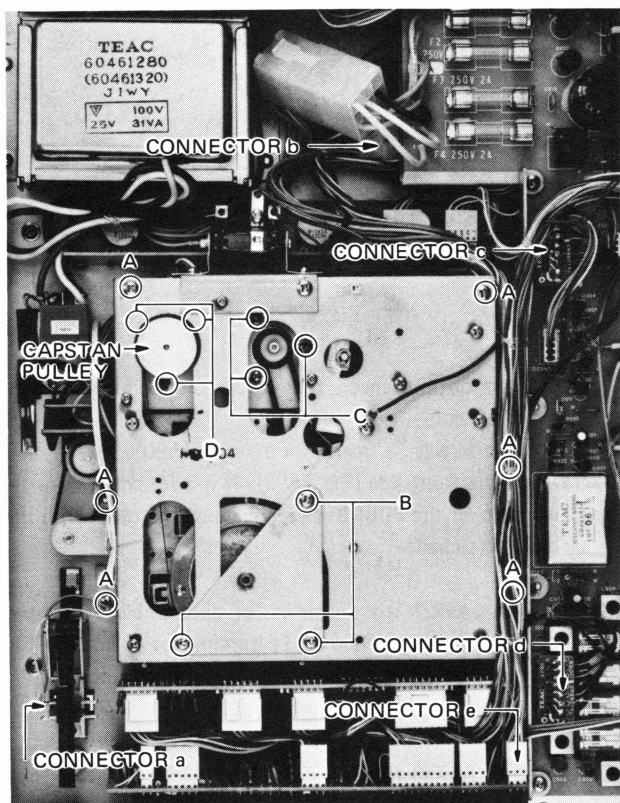

Fig. 5-2-5
If the mechanism assembly must be taken out completely, other connectors (b) ~ (e) should be disconnected and the mechanism wire harness disconnected from the main unit. Refer to Fig. 5-2-5.
- 1) Remove the three screws (B) holding the flywheel thrust plate at the rear side of the mechanism, and take off this plate. Fig. 5-2-5.
- 1) Refer to Fig. 5-2-5.
- 2) Remove the reel motor by the procedure in Item 5-2-6 and take off the three screws (C) securing the motor.
- 3) After lifting out the mechanism assembly, remove the capstan motor by first taking off the capstan pulley and then taking off the three screws (D) securing the capstan motor. To take off the capstan pulley, use a small flat blade screwdriver.